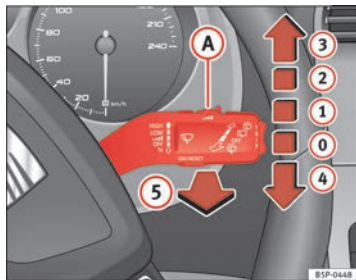

Fig. 85 Windscreen wiper and windscreen wash lever
The windscreen wiper lever ⇒ fig. 85 has the following positions:
- The next speed down will automatically be selected if wiper speed ② ⇒ page 130, fig. 85 or ③ is selected when the vehicle stops. The set speed will be resumed when the vehicle starts again